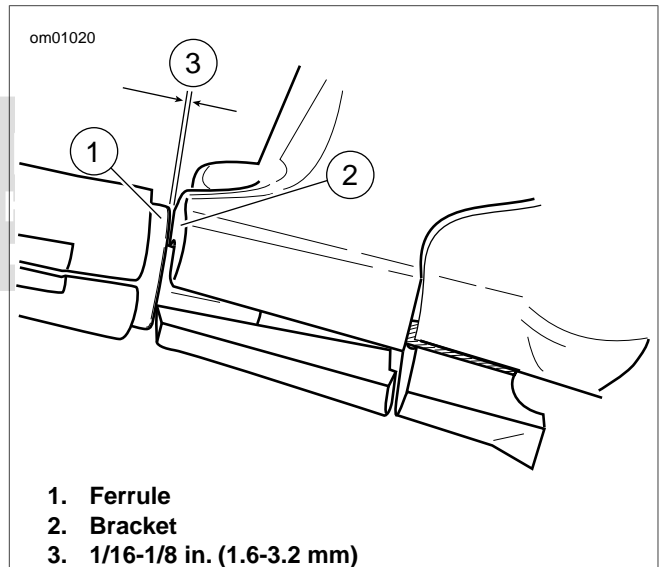

Figure 1-29. Clutch Cable Free Play
- a. See Figure 1-29. Pull ferrule (end of cable housing) away from bracket. Gap between ferrule and bracket should be 1/16-1/8 in. (1.6-3.2 mm).